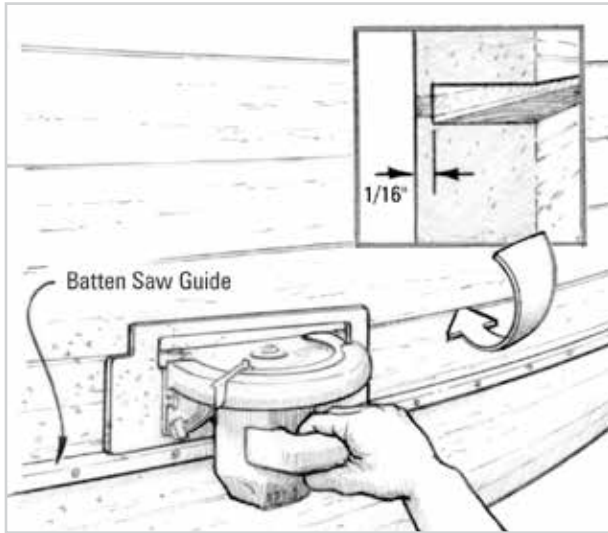

Figure 5-1 Use a circular saw to clean out plank seams.
5. Clean out each seam by running the saw along the batten (Figure 5-1). Check the depth and width of the cut. Clean out the butt joints at the ends of the plank as well. Chisel a shallow bevel on the end of the planks ($\frac{1}{4}$ " deep $\times$ $\frac{1}{2}$ " back from the edge) (Figure 5-2). The bevel increases bonding area and reduces stress at the joint.